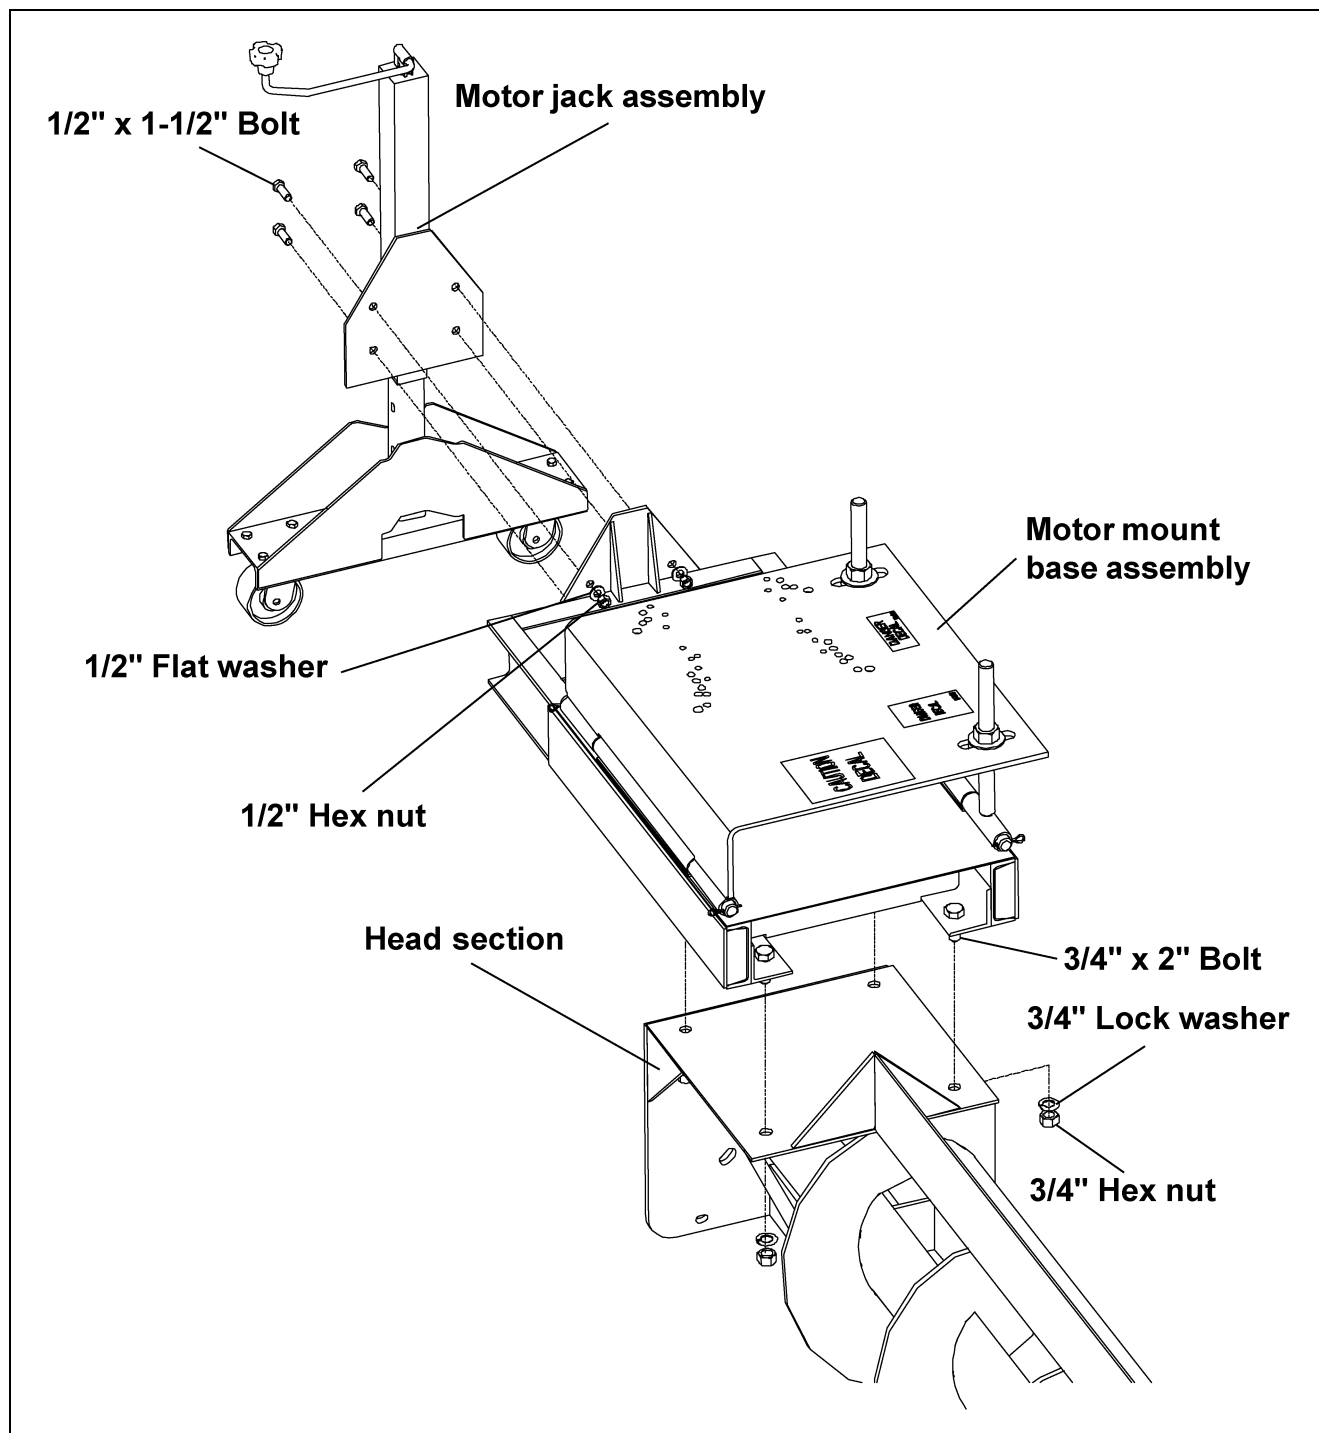

Figure 5U
- A. Attach the motor mount base assembly to the head section using four (4) 3/4" x 2" bolts, lock washers and hex nuts. (See Figure 5U.)
- B. Attach the motor jack assembly to the motor mount base assembly using four (4) 1/2"-13 x 1-1/2" bolts, 1/2" flat washers and 1/2" hex nuts.